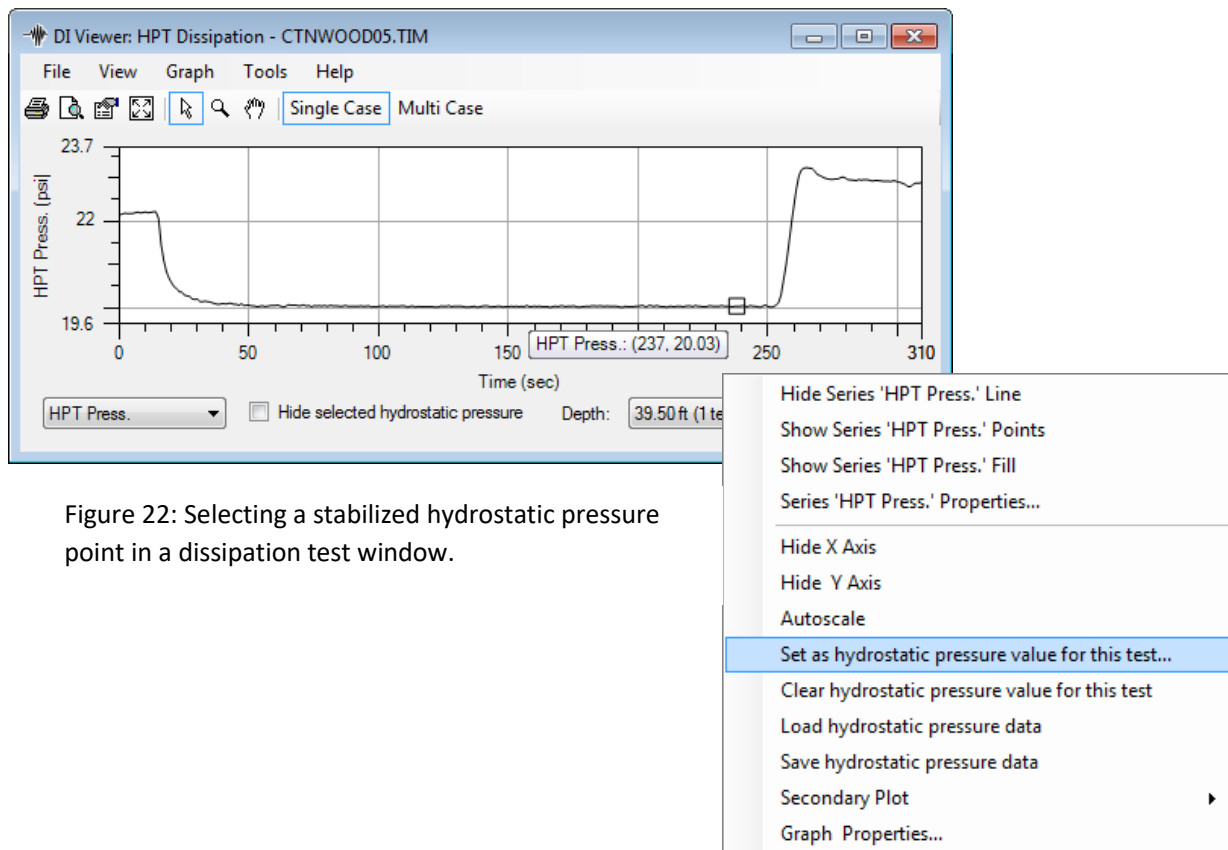

Figure 22: Selecting a stabilized hydrostatic pressure point in a dissipation test window.
3. Click on the point and a popup menu opens, click on the option *Set as hydrostatic pressure value for this test* (Figure 22). A small box is then posted on the selected point.